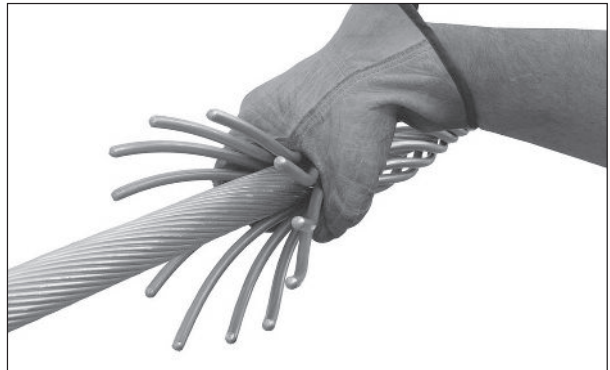

FIGURE 6: Wrapping the ends of the rods
- 4.05 Using firm hand pressures ONLY, wrap the ends of the rods in place, as shown in **Figure 6**. Do not use a tool as it may scar or lead to damage.